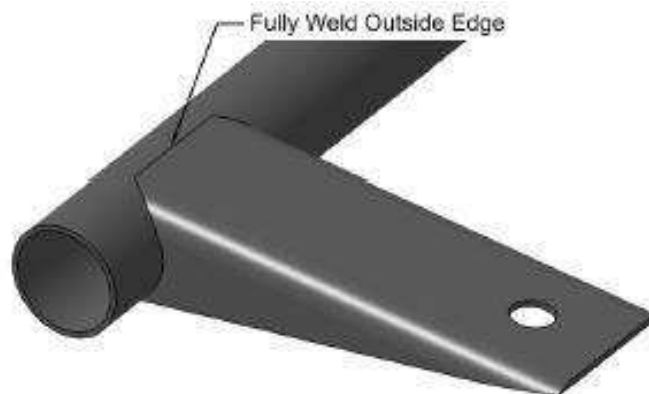

Figure B- 51: Minimum weld length
- Minimum Weld Length: At least the full outside face of the bracket must be welded to the supporting tube as shown in Figure B-51.